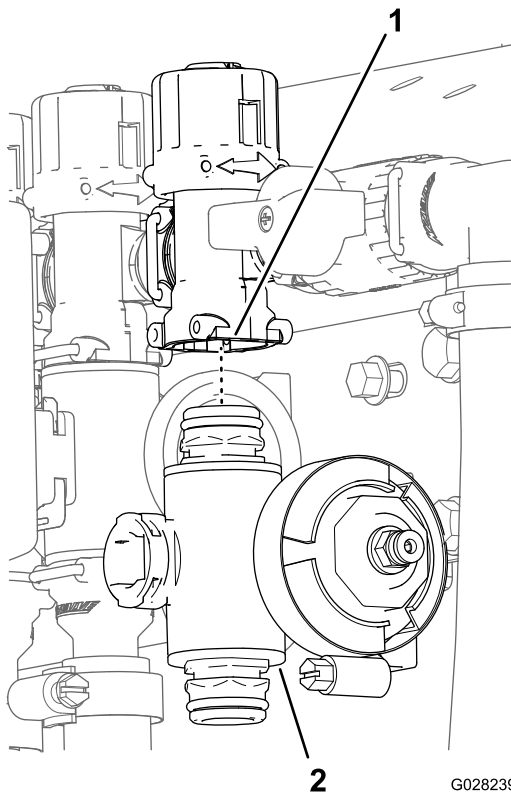

Figure 106
3. For the left or right boom section valves, remove the flanged-head bolts and flanged locknuts that secure the section valve(s) to the valve mount and remove the valve manifold(s) from the machine; for the center section valve, remove the section valve manifold from the machine (Figure 106).